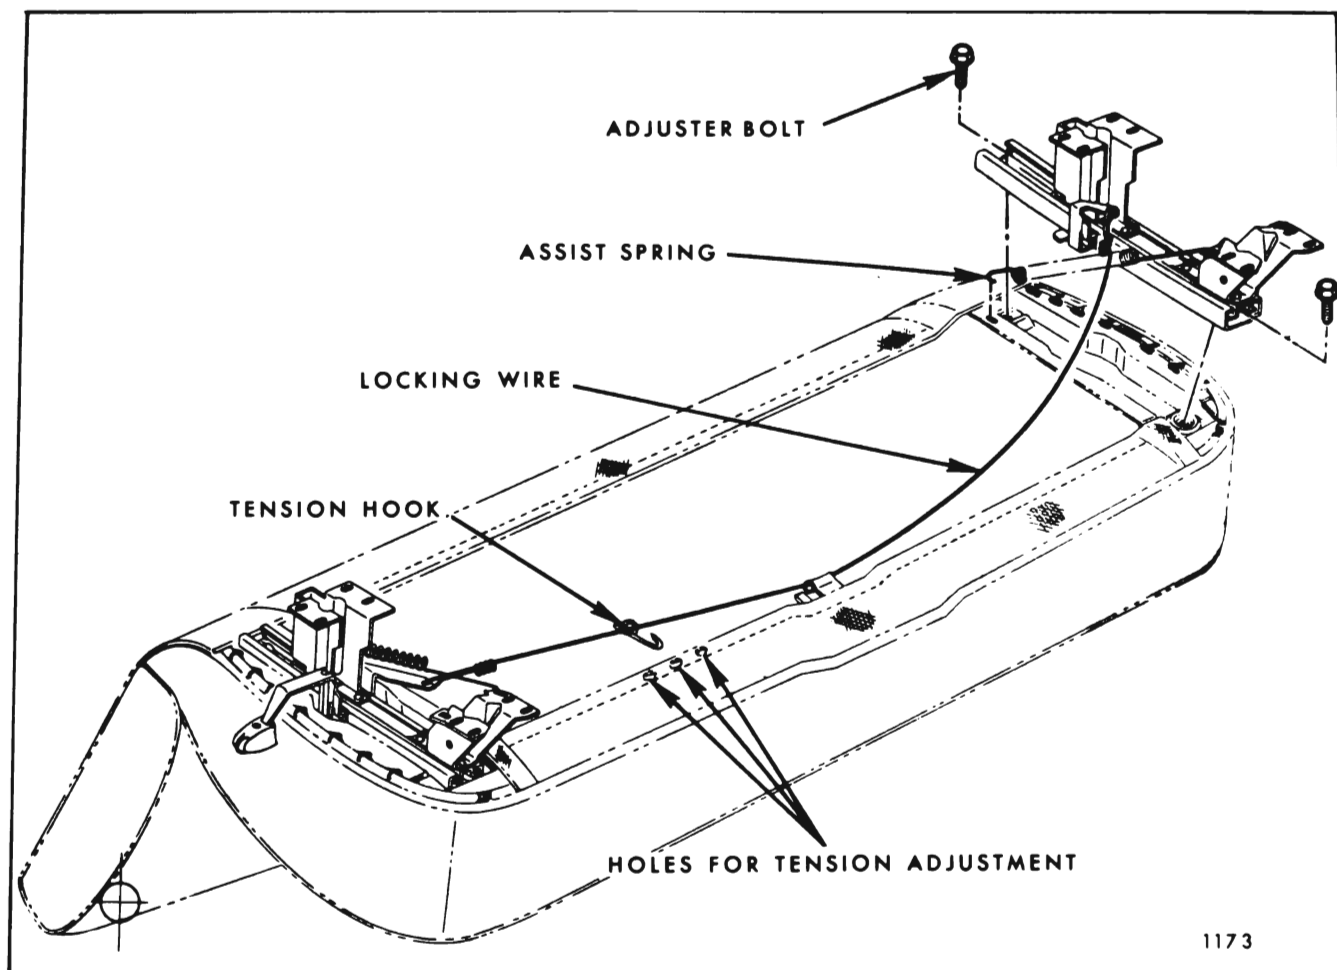

Fig. 15-3 — Manually Operated Seat Adjuster Installation - "B & C" Shown "A, F, X & Z" Typical
2. Remove seat adjuster assist spring from adjuster to be removed (Fig. 15-3).
4. Remove adjuster-to-seat bottom frame front and rear attaching bolts (Fig. 15-3) and remove seat adjuster from seat.
After installing adjusters to seat frame, check operation of adjusters. If adjusters do not lock or unlock satisfactorily when control handle on left adjuster is operated, disengage locking wire retainer from hole in seat bottom frame and engage retainer in one of adjacent holes to obtain proper tension in wire. (Fig. 15-3).